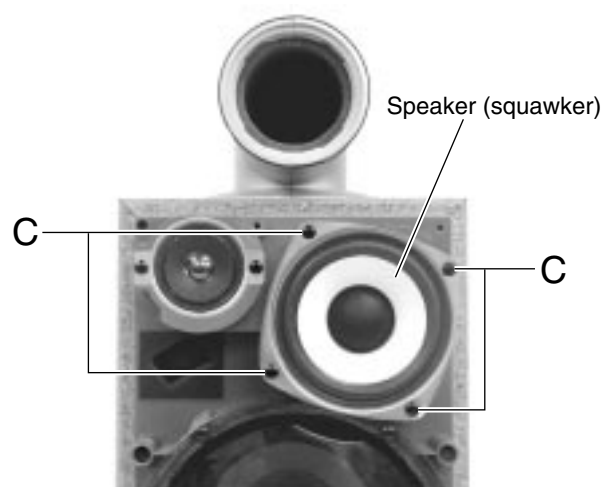

Fig.3
■ Removing the speaker (squawker) (See Fig.3)